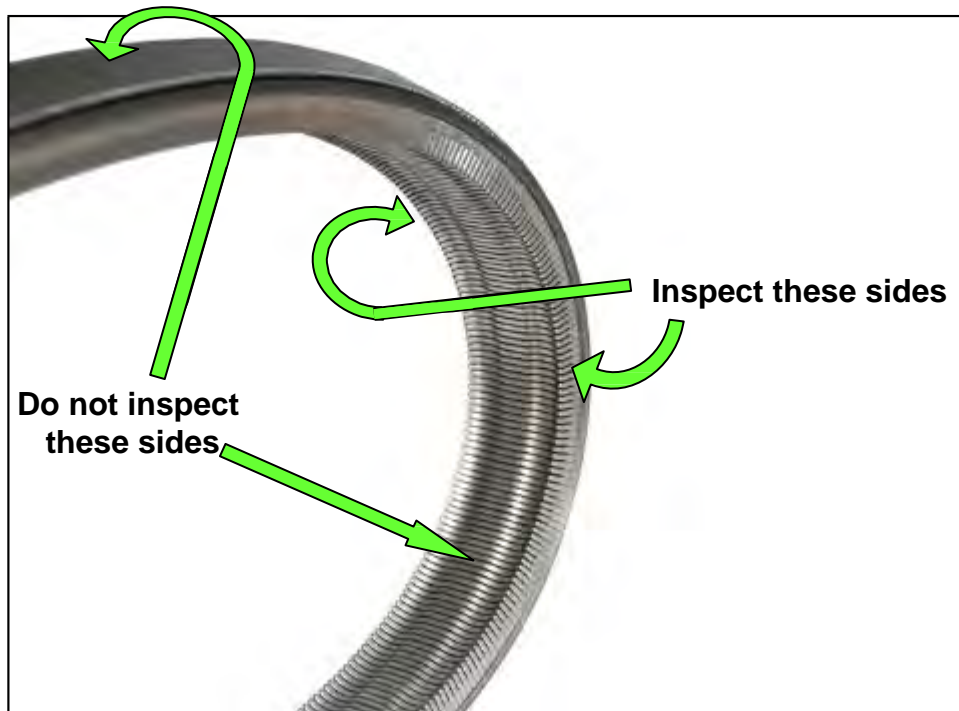

Figure 2C: New belt
3. Using the steps on pages 12-17 inspect the entirety of the two sides of the belt that come in contact with the pulleys (see Figure 2C):